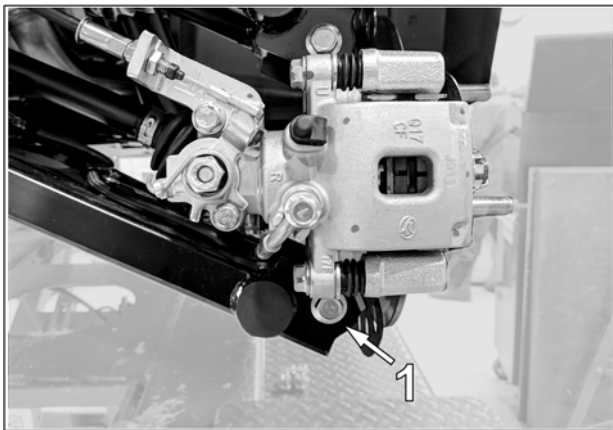

Fig. 6
5. Remove bolt (1) that links rear lower suspension arm to wheel knuckle. See Fig. 6